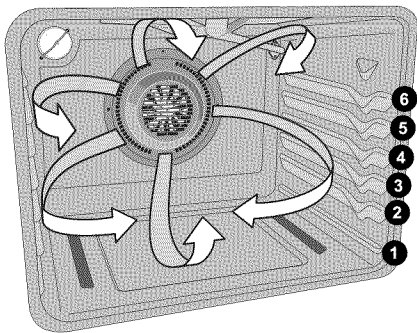

Figure 20: Air movement using convection
- For best results when using a single oven rack, place rack in position 2 or 3 (See Figure 20). When using two oven racks, place in positions 1 and 4. When using three oven racks, place in positions 1, 3, and 6 (use offset rack only in position 6).
- For best results when baking cakes or cookies using two oven racks, place racks in positions 3 and 5 (See Figure 20).